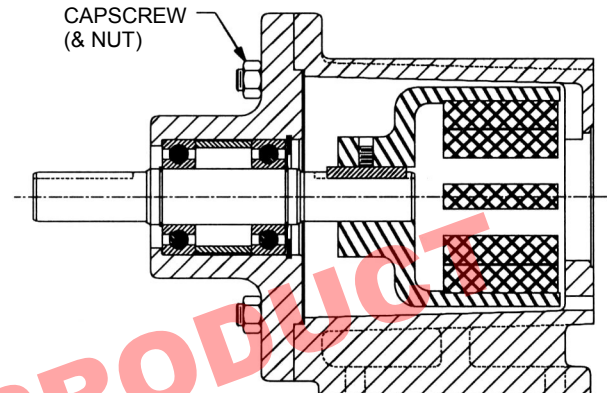
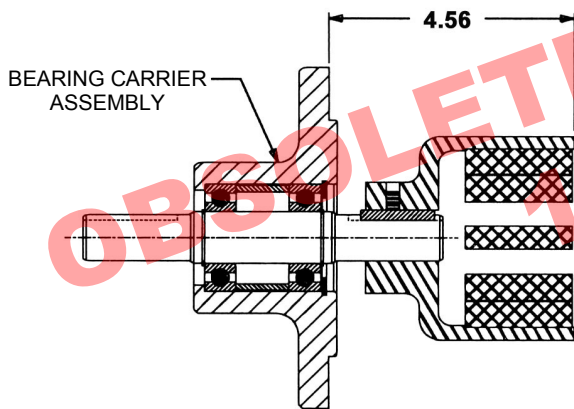

FIGURE 18
FIGURE 16
2. Mount bracket to motor (or bearing carrier to footed bracket) and secure with 4 capscrews. See Figure 18. Reach in and rotate magnets by hand to make sure there is no interference. If rubbing occurs, check dimensions (see Figures 16 and 17) or contact factory.